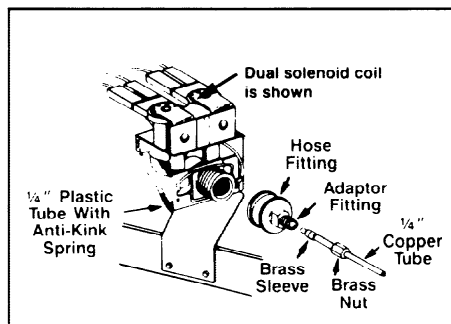

FIGURE 81
3. Remove the compressor compartment cover from the bottom rear of the refrigerator to reveal the water valve coupling. Place a small container under the valve to catch water spills. Remove the brass hose fitting from the valve. Label the two plastic tubes attached to the valve. Unscrew the compression nuts from the tubes and push the ends of the tubes away from their valve fittings. See Figure 81.